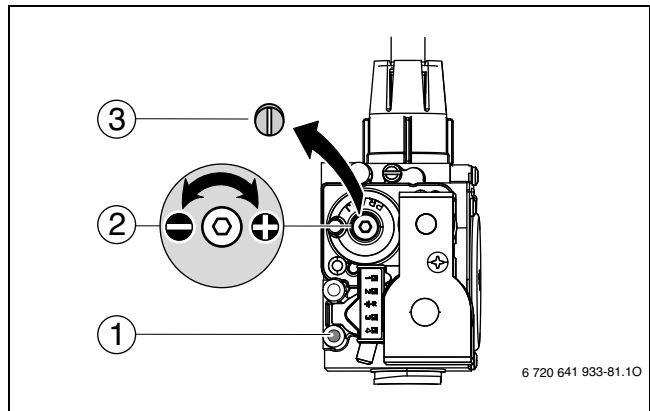
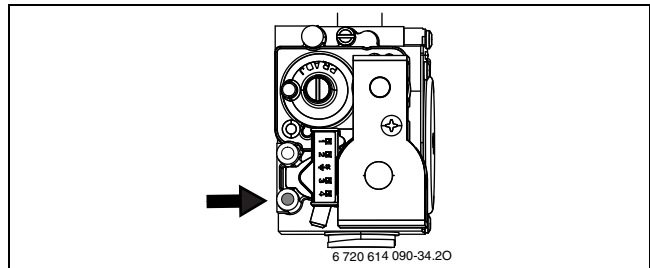

Fig. 78 Set CO2 or O2 level for minimum nominal output
Fig. 79 Dynamic gas pressure test port
- ▶ Remove the sealed screw (→ Fig. 78, [3]) from gas valve adjustment screw (→Fig. 78, [2]) and set CO2 or O2 level for minimum nominal output.
- ▶ Reinstall the screw (→Fig. 78, [3]) to cover the gas valve adjustment screw.
- ▶ Loosen the screw in the test port for gas inlet pressure ( . Fig. 78, [1]) and connect a pressure gauge (→ Fig. 79).